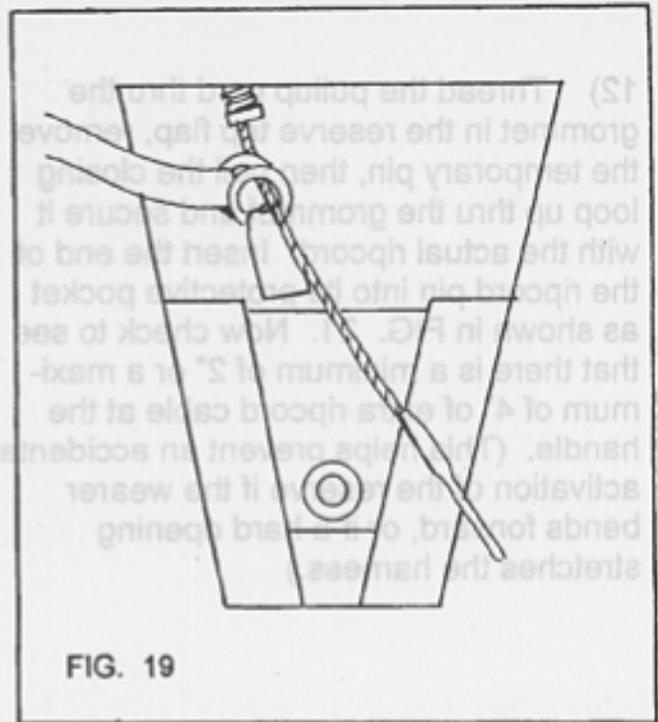
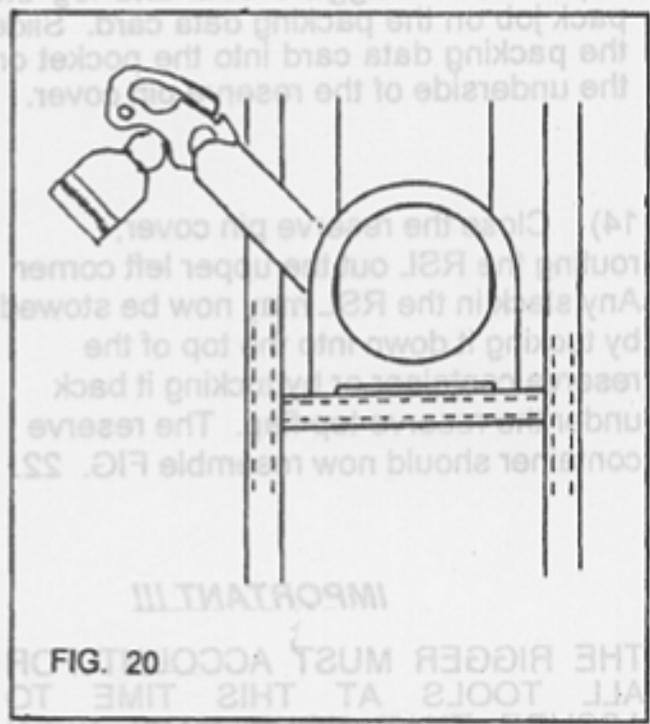

FIG. 19
FIG. 20
Immediately after exiting the end of its housing, the reserve ripcord must pass thru the small ring on the end of the reserve static line(RSL), and then thru the same type of ring mounted on the reserve top flap (see FIG. 19). The velcro on the RSL should then be mated to the velcro track provided on the rear surface of the reserve left front riser. Route the RSL over the shoulder so that the end with the bronze snap-shackle exits from under the reserve riser just behind the main support ring of the harness. (See FIG. 20.) There should be about three to four inches of the RSL remaining so that when the DOLPHIN is assembled with a main canopy, the snap-shackle can be attached to the ring on the left main riser.
19) Roll the pilot chute as tightly as possible so that it resembles FIG. 20.